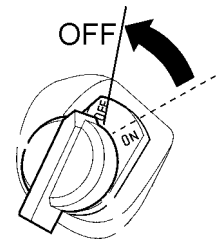

Figure 20. Engine ON/OFF Switch (OFF)
- Place the **engine ON/OFF switch** (Figure 20) in the **"OFF"** position. This step applies to units with S/N 5497957 and above.